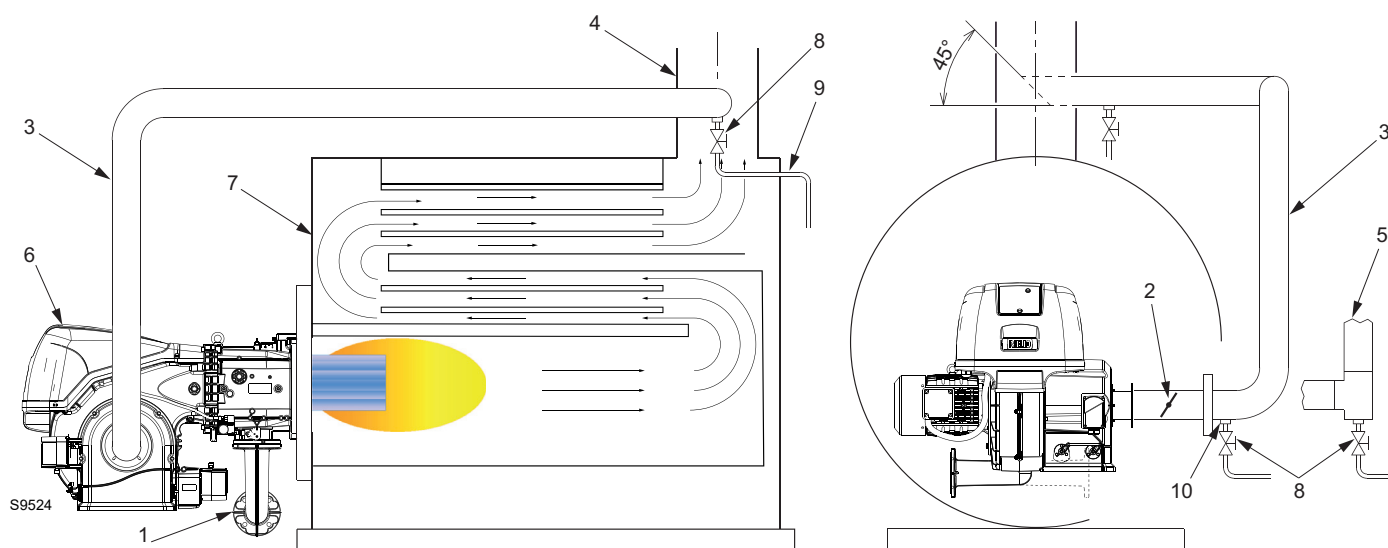

Fig. 18
- Normally the duct would connect to the stack as shown in Fig. 18, with a 45° cut facing the flue gas flow and with the center of the cut centered in the stack.
#### Key (Fig. 18)